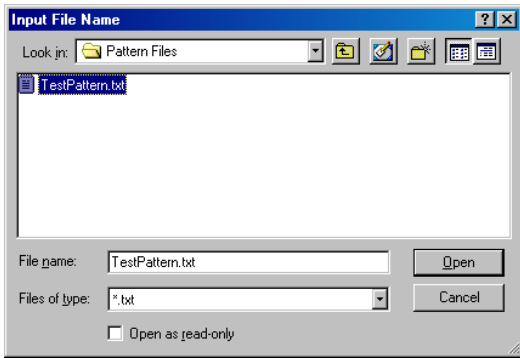

Figure 17. Converter Example Step #3
3. Click on the **DAT** button and find the binary text file that needs to be converted and then click on **Open** (Figure 17). After the **Open** button is clicked, the program will count the number of data bits in the file.